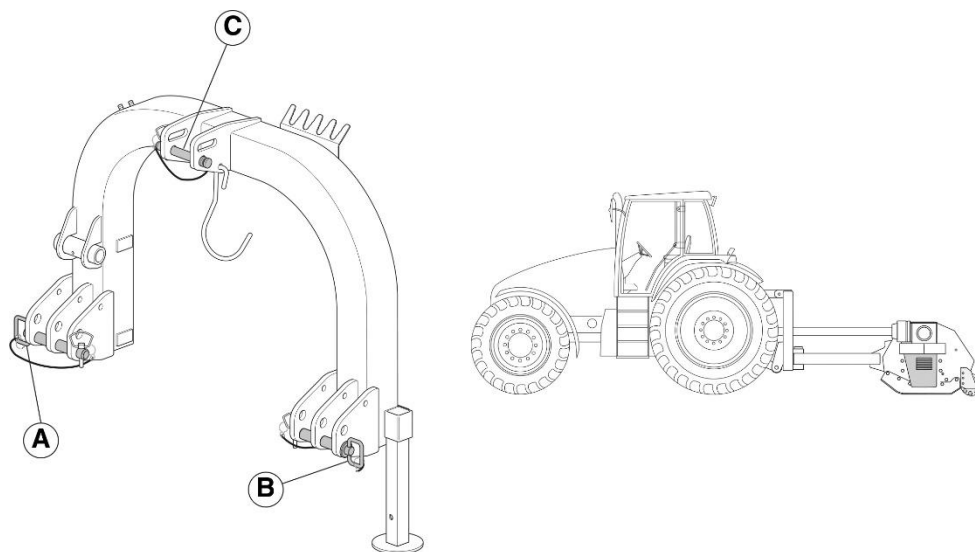

Figure 7
Proceed as follows for the coupling (see Figure 7):
- A fixed hole (ref Figure 7 (1)); which should be used for transport purposes.
- A slotted hole (ref Figure 7 (2)); which should be used for working purposes.
The fixed hole (ref Figure 7 (1)) should be used during transport purposes, when the machine is out of work, folded up and is required to be lifted off the ground. The fixed hole ensures the machine remains as stationary as possible and will not move when its carried by the tractor.
The slotted hole (ref Figure 7 (2)) should be used when the machine is operating at work. The slotted hole allows the machine to follow ground contours more effectively, giving better operation and final finish of the cut material.